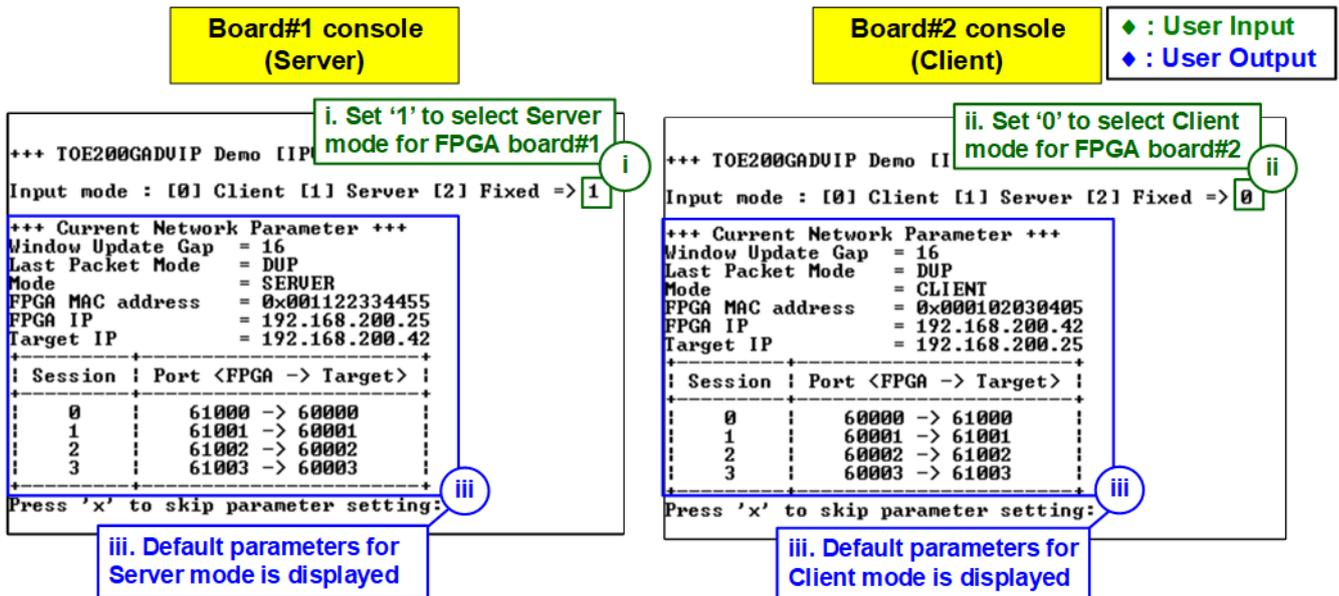

Figure 19 Input Modes for Each FPGA Console
- iii) The default parameters for the selected mode will be displayed on the console, as shown in Figure 19.